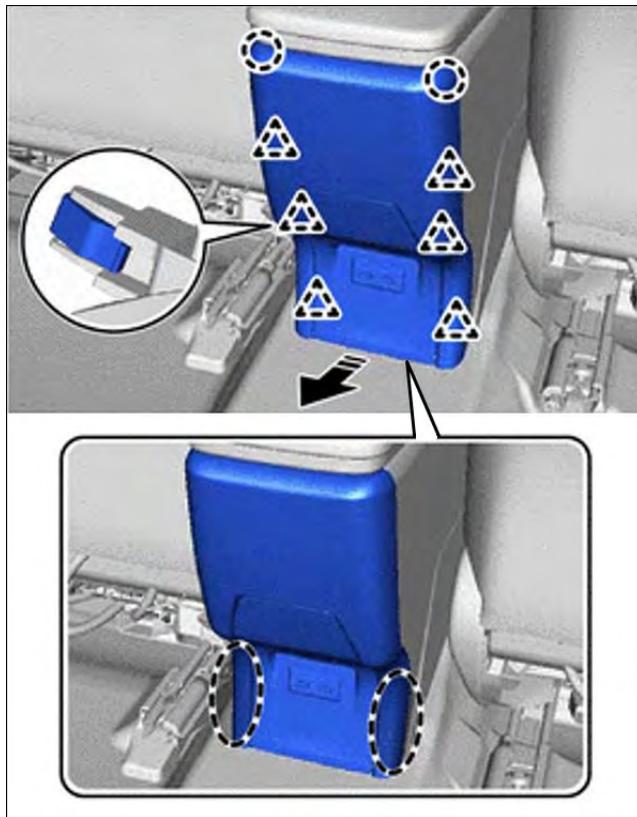

Figure 19
- (a) Disengage the 6 clips and remove the console box hole cover, as shown in Figure 19.